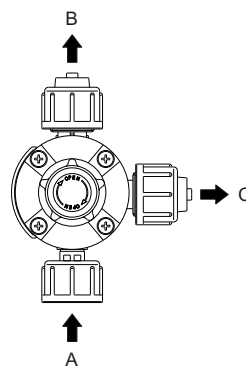

Fig. 2 Connections
The multi-function valve is designed as a three-way valve. It has an inlet (A), an outlet on the discharge side (B), and an unpressurised relief outlet (C). See fig. 2.